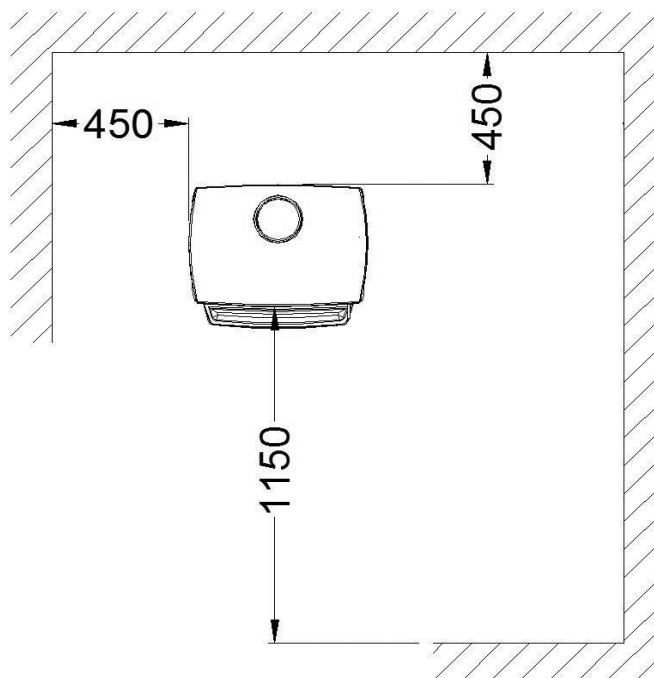

FIG. 6 - SAFETY DISTANCES
- When installing the stove, observe the necessary safety distances for the oven and chimney from combustible surfaces (wooden or papered walls, wooden floors...). Safety distances must be respected when the lining on walls or nearby areas may be damaged or deformed by temperature (varnish, paint, PVC...). Fig. 6